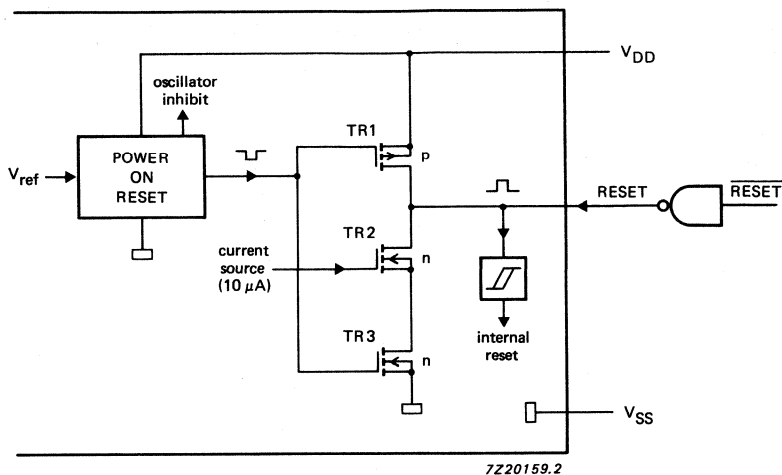
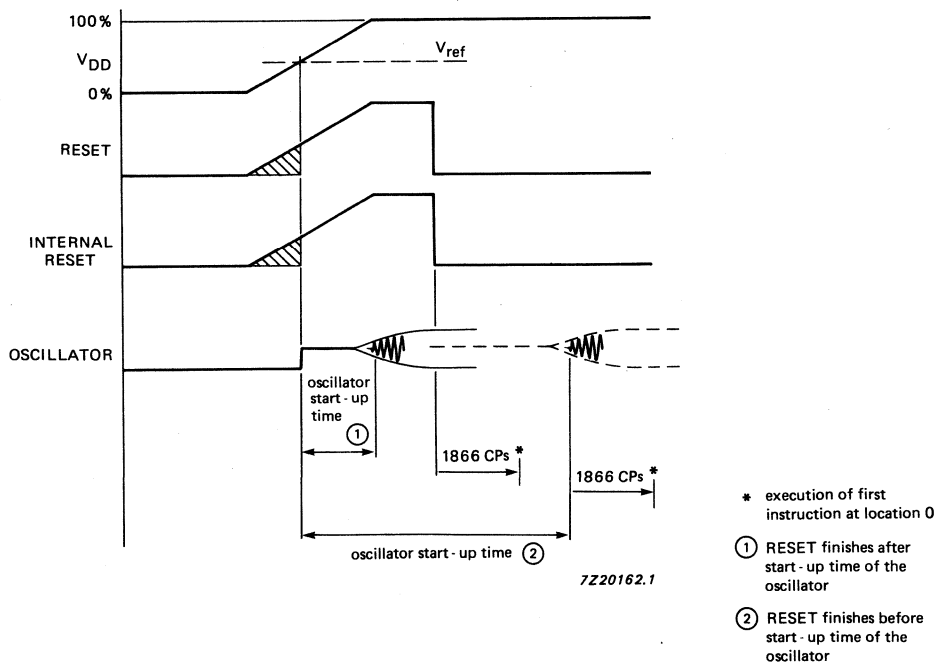

Fig. 26 External power-on-reset configuration.
Fig. 27 Timing of external power-on-reset.
3. Fig. 26 shows an external reset during power-on. The external reset signal must remain HIGH until  $V_{DD}$  has reached its minimum operating value corresponding to the selected oscillator frequency. When a reset is completed (RESET goes LOW) before the oscillator has started up, program execution begins after the oscillator start-up time plus 1866 clock periods have elapsed (see Fig. 27). If the oscillator is started-up prior to the completion of RESET, then program execution begins 1866 clock periods after RESET goes LOW.